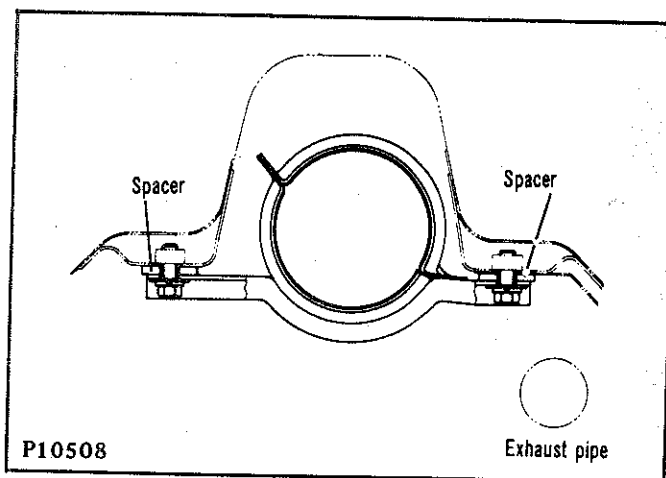

Fig. 8—Installing the centre bearing assembly
- (1) Clean the outside surface and splines of the front yoke and apply gear oil prior to installation. Engage the yoke splines on the end of the output shaft, being careful not to burr the splines.
- (2) Install the centre bearing bracket and spacers leaving the attaching nuts loose to allow fore and aft movement of the bearing assembly (refer Fig. 8).
- (3) Align the mating marks of the rear flanges and install the rear flange bolts and nuts.
- (4) Tension the centre bearing and rear flange nuts to the specified torque.
The propeller shaft angularity can be adjusted to the specified angle by means of shims inserted between the floor pan and centre bearing bracket (refer Fig. 8).